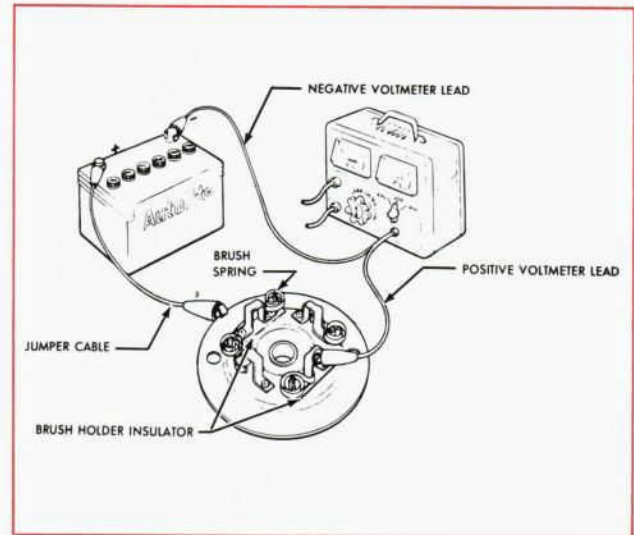

Figure 2—Brush Plate
1. Connect a jumper cable from the battery positive post to the brush end plate (Fig. 2).